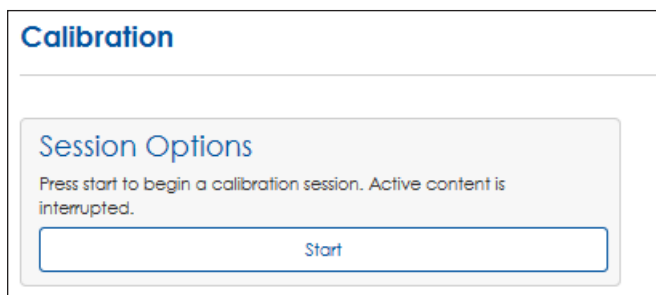

Figure 91: Calibration Session Options
1. Click **Start**. A **Session Options** window opens. Refer to **Figure 91**.